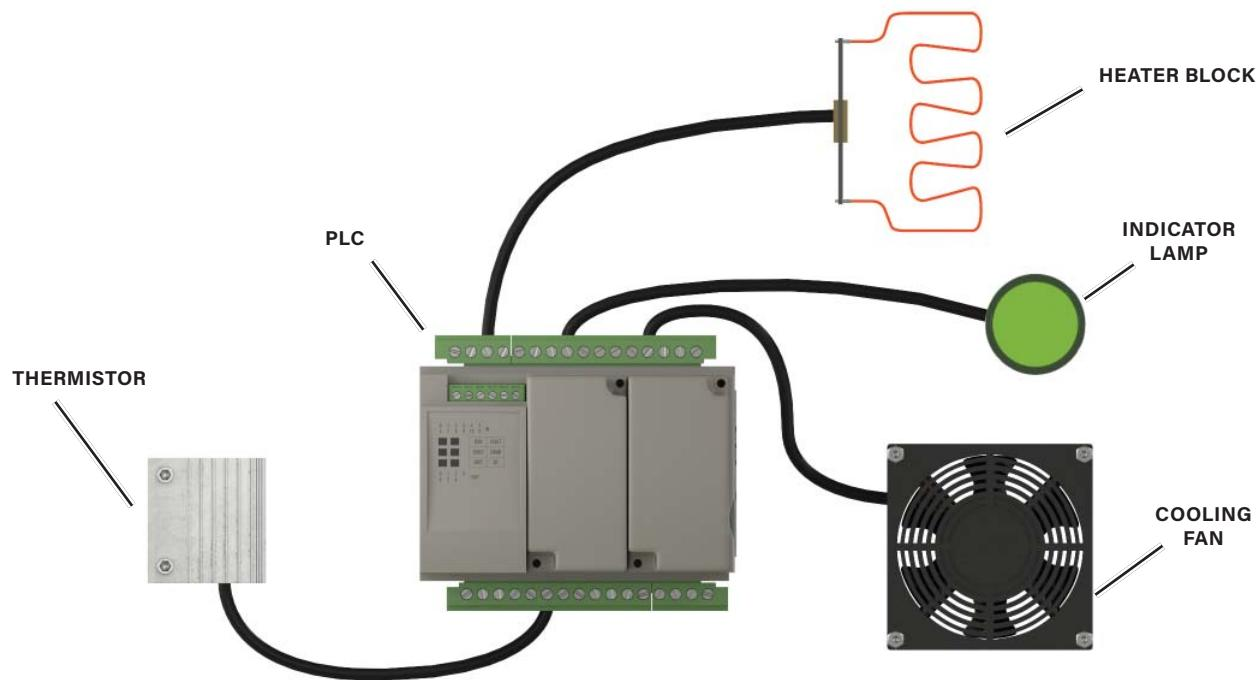

Figure 3-7. Diagram of Heating Application Inputs and Outputs
A. Examine the control diagram of the heating application shown in figure 3-7.